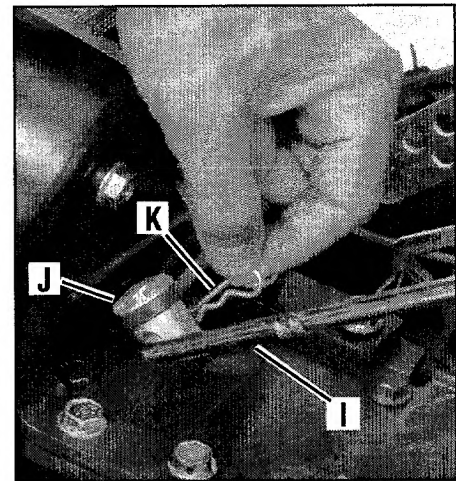

Figure 2-8: Install Maneuvering Clutch Lever.
2. Turn the lever (I, Figure 2-8) so that the small bend at its lower end points inward.